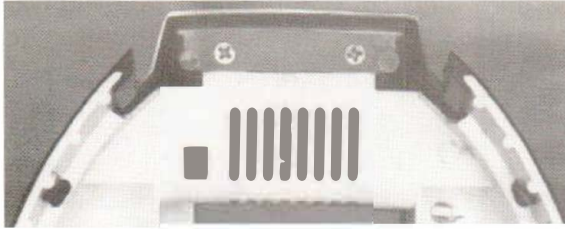

Figure 19. Headlight Bulb Replacement
- A. See Figure 19. Remove two flat head Phillips screws from bottom of head light plastic lens.